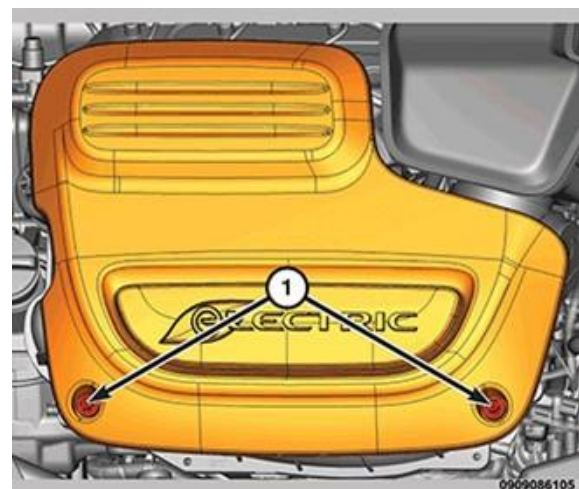

Figure 58 – Engine Cover
85. Remove the bolts (1) from the engine cover then pull upward on the engine cover to release from the ball stud mounting brackets and remove the engine cover (Figure 58).
96. Install the engine cover by pushing straight down onto ball stud mounting brackets then install the bolts (1) and tighten securely (Figure 58).